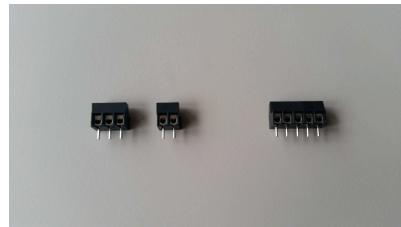

Figure 3.3. 5 pin terminal\_block
- 1) Make a 5 pin terminal block by sliding the included 2 pin and 3 pin terminal blocks into each other Figure 3.3.